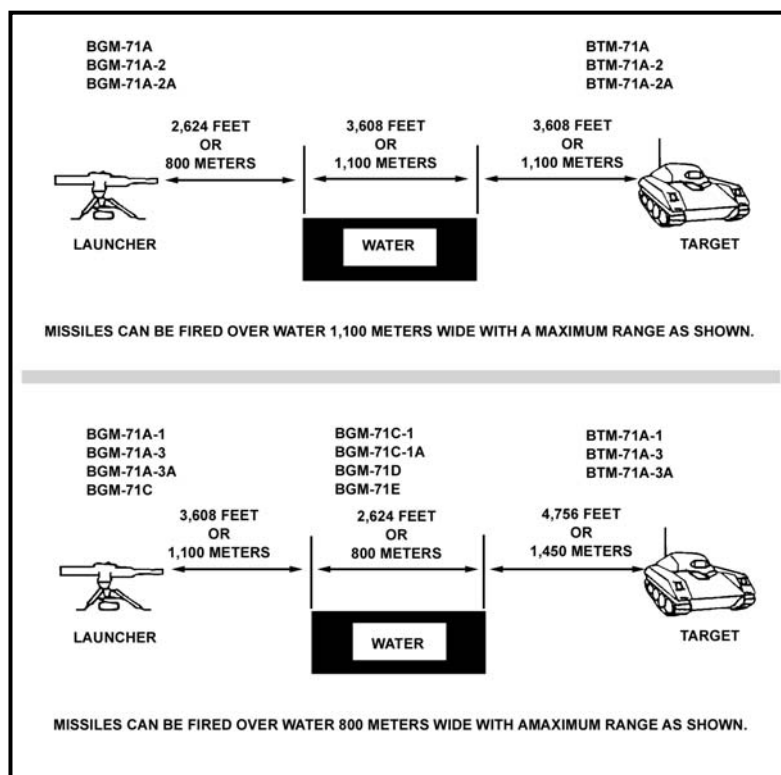

Figure 2-1. Maximum TOW missile range.
(1) The various types of TOWs listed may be fired over water to a maximum range as shown in Figure 2-1 (TOW launcher and target at water surface level).